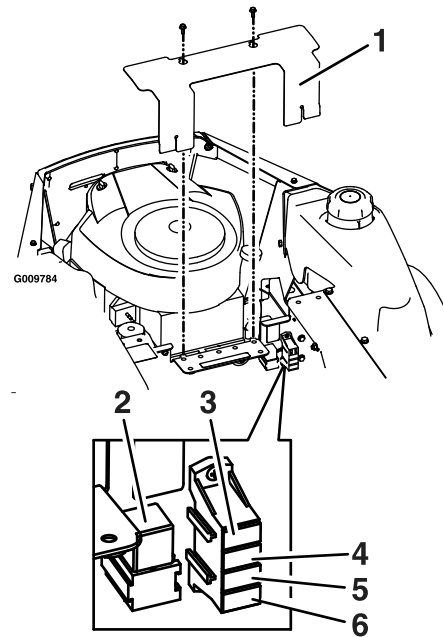

Figure 29
1. Raise the seat to gain access to the fuse holder (Figure 29).
2. Remove cover as shown in Figure 29.